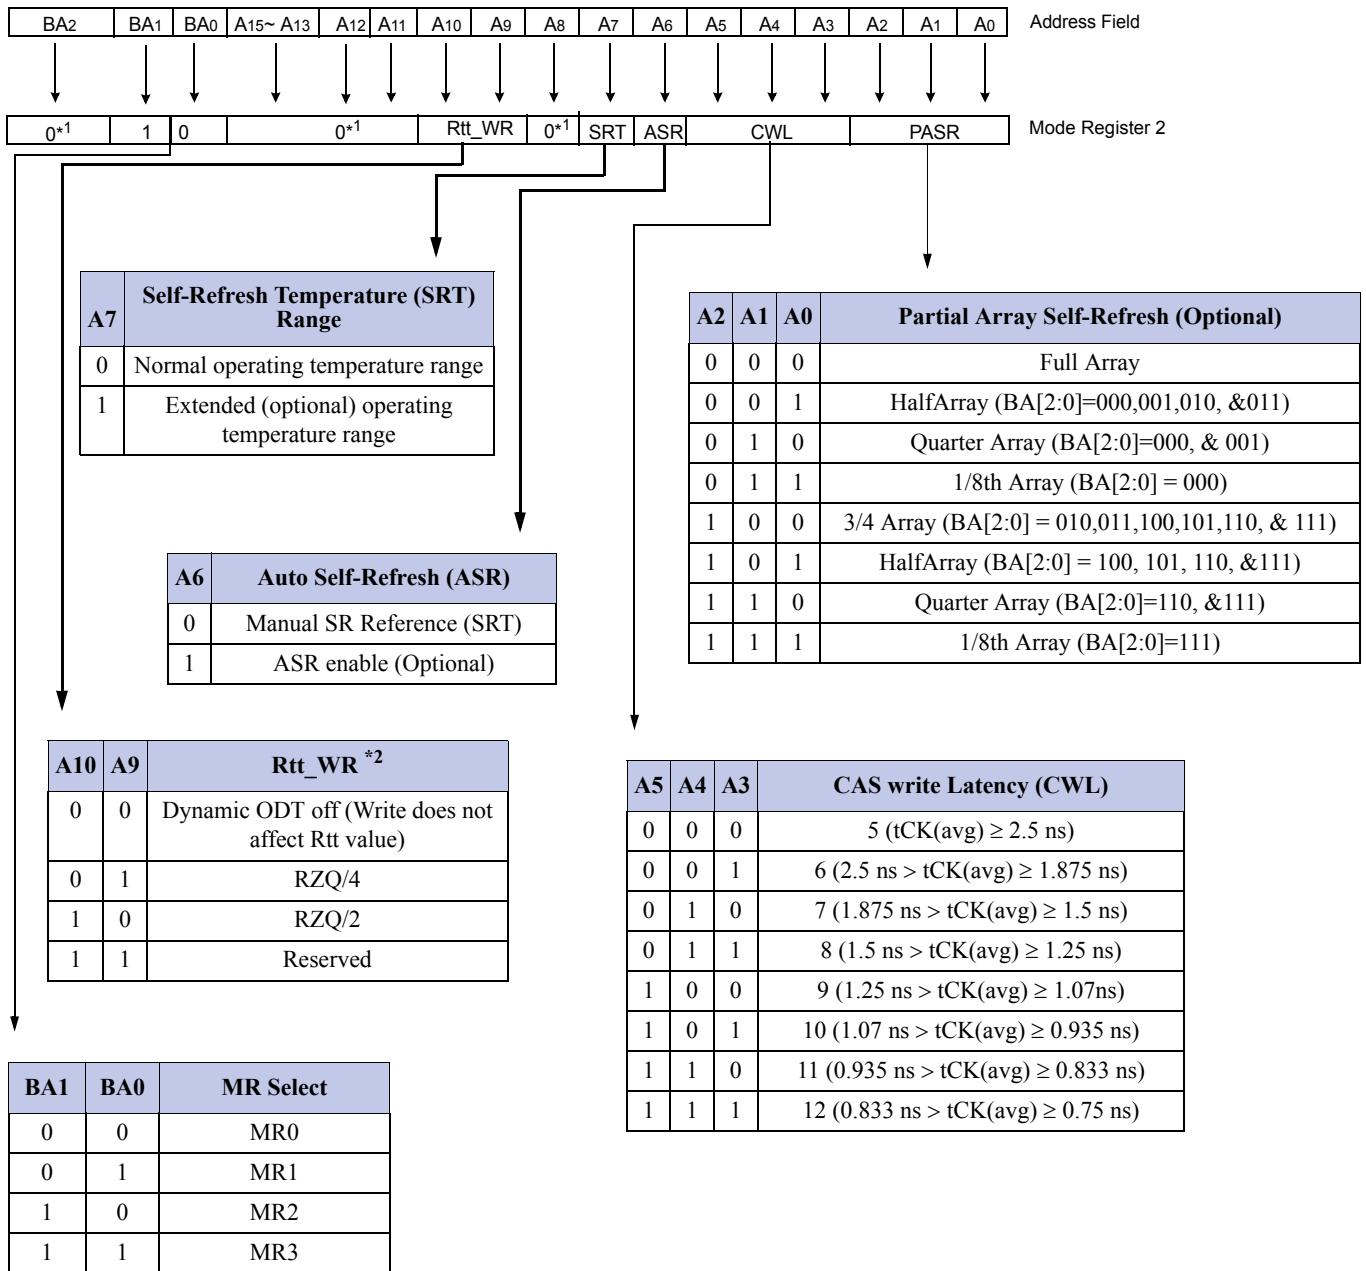

Figure 11 — MR2 Definition
Optional in DDR3 SDRAM: Users should refer to the DRAM supplier data sheet and/or the DIMM SPD to determine if DDR3 SDRAM devices support the following options or requirements referred to in this material. If PASR (Partial Array Self-Refresh) is enabled, data located in areas of the array beyond the specified address range shown in Figure 11 will be lost if Self-Refresh is entered. Data integrity will be maintained if tREFI conditions are met and no Self-Refresh command is issued.
The CAS Write Latency is defined by MR2 (bits A3-A5), as shown in Figure 11. CAS Write Latency is the delay, in clock cycles, between the internal Write command and the availability of the first bit of input data. DDR3 SDRAM does not support any half-clock latencies. The overall Write Latency (WL) is defined as Additive Latency (AL) + CAS Write Latency (CWL); $WL = AL + CWL$. For more information on the supported CWL and AL settings based on the operating clock frequency, refer to “Standard Speed Bins” on page 157. For detailed Write operation refer to “WRITE Operation” on page 68.